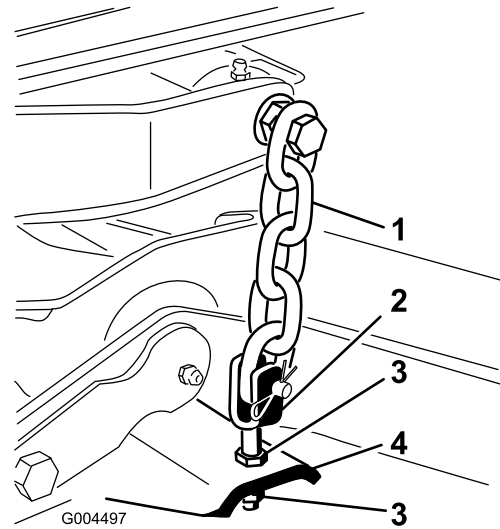

Figure 74
7. Adjust the jam nuts securing the rear deck yokes/chains to raise the rear of the deck so that the blade pitch is set to 5/16 inch (8 mm) (Figure 74).